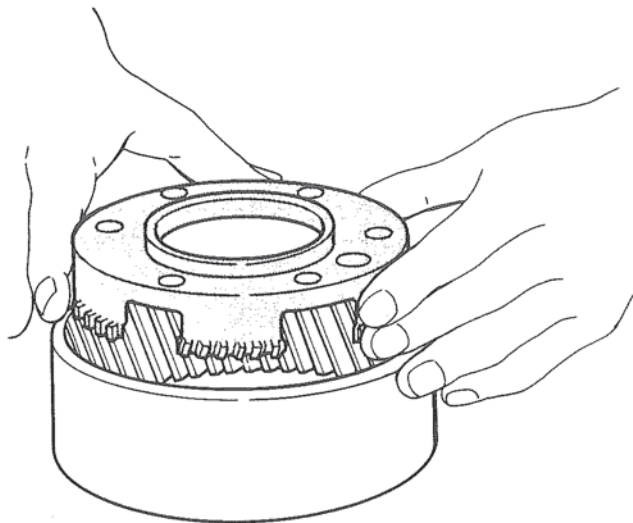

Figure 14. Assembling Stationary Gear Plate.
1. Install the stationary gear plate into the ring gear until it rests against the shoulder. Figure 14.